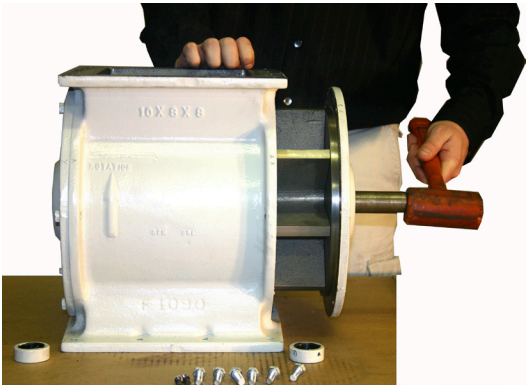

Figure 10
- 8. Remove the end plate (see Figure 10). Socket head set screws are provided to assist in end plate removal.